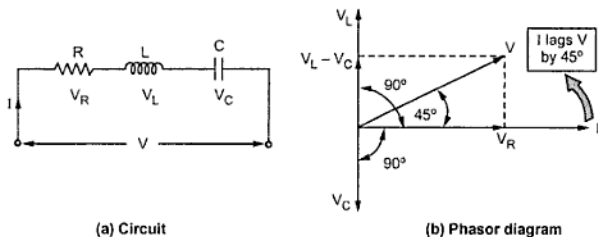

Fig. 5.62
- iv) The phasor diagram is shown in the Fig. 5.62.